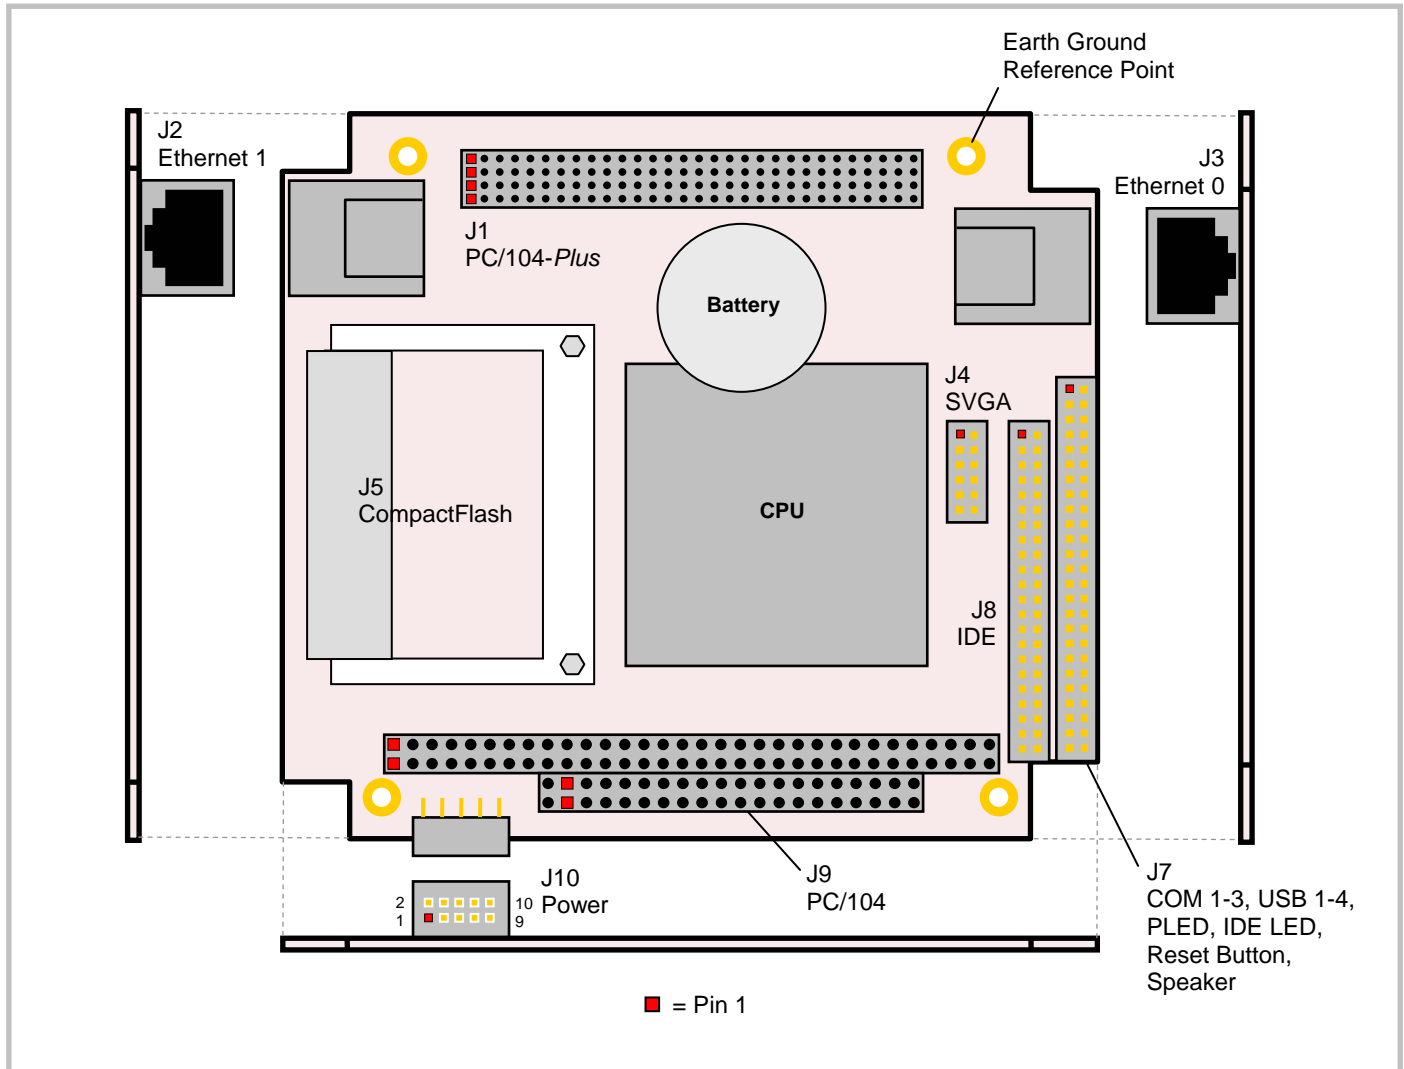

Figure 9. EPM-14 Connectors – Top Side
1. The PCB origin is the mounting hole to the lower left, as oriented in Figure 9.